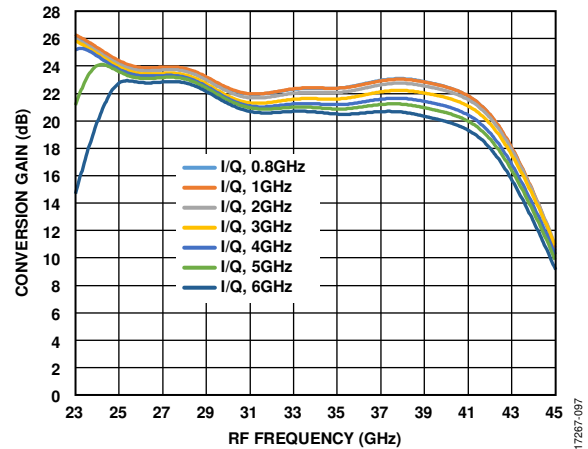
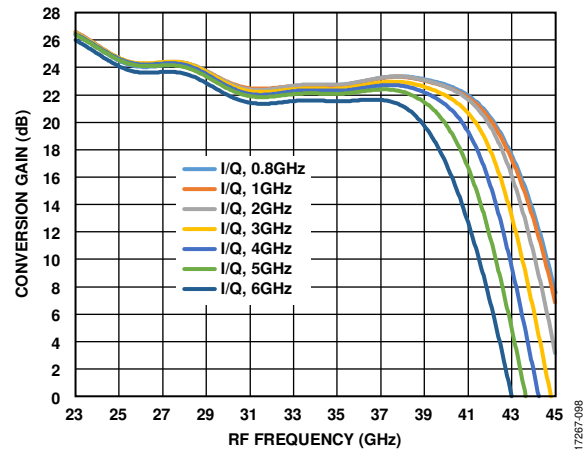

Figure 94. Conversion Gain vs. RF Frequency for Multiple Baseband Frequency Settings (Upper Sideband)
Figure 95. Conversion Gain vs. RF Frequency at Multiple Baseband Frequency Settings (Lower Sideband)
Figure 94 and Figure 95 show the conversion gain vs. RF frequency in I/Q mode for multiple baseband (BB) frequencies ($T_A = 25^\circ\text{C}$, $LO = 0\text{ dBm}$) for upper sideband and lower sideband, respectively.